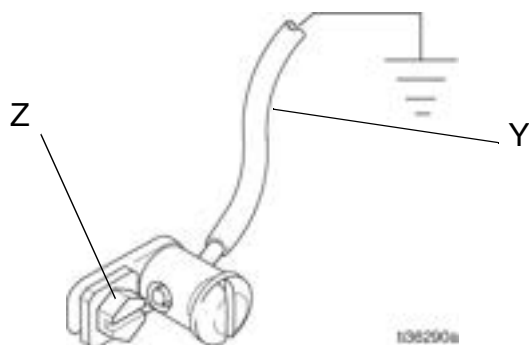

FIG. 1
Pump: use ground wire and clamp as shown in FIG. 1. Remove the ground screw (Z) and insert through the eye of the ring terminal at the end of the ground wire (Y). Fasten the ground screw back onto the pump and tighten securely. To order a ground wire and clamp order part number 222011.